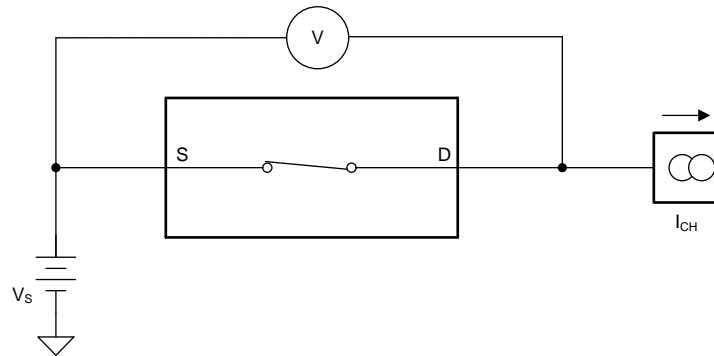

图 17. On-Resistance Measurement Setup
The on-resistance of the TMUX6104 is the ohmic resistance across the source (Sx) and drain (D) pins of the device. The on-resistance varies with input voltage and supply voltage. The symbol  $R_{ON}$  is used to denote on-resistance. The measurement setup used to measure  $R_{ON}$  is shown in 图 17. Voltage (V) and current ( $I_{CH}$ ) are measured using this setup, and  $R_{ON}$  is computed as shown in 公式 1: